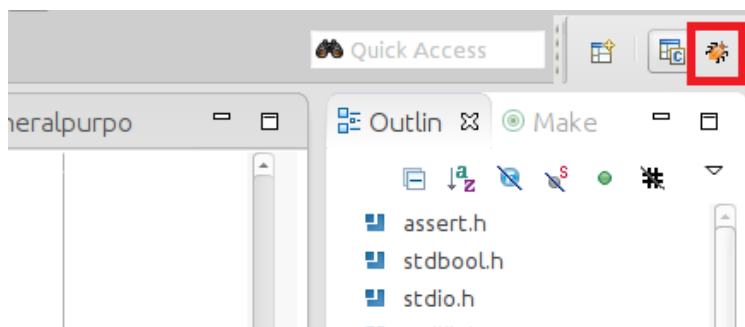

Figure 8-38. Switching to the DS-5 Debug Perspective
22. Switch to the *DS-5 Debug* perspective, as shown in Figure 8-38.